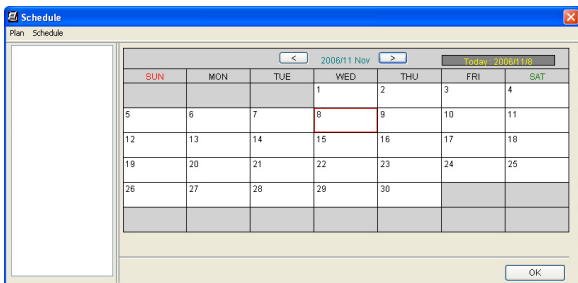

Figure 1-32
1. On the Schedule window, double-click an established plan. A plan dialog box similar to Figure 1-32 appears.
2. Click the **Advanced Setting** button (No. 5, Figure 1-32). The Advanced Setting dialog box appears.
4. On the plan dialog box, click the **Notification** button (No. 8, Figure 1-32), drag the mouse over SMS and / or E-mail timelines to define the Start time and End time to send out alerts.